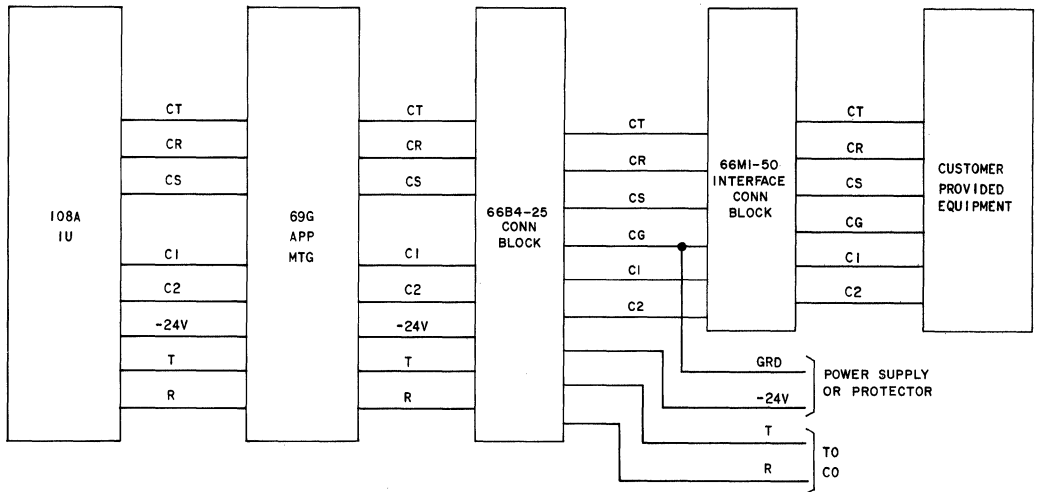

Fig. 5—Block Diagram—108A Interconnecting Unit With 69G Apparatus Mounting
69G Apparatus Mounting (Fig. 5 and 6)
3.01 The 69G apparatus mounting is not recommended for new installations. To provide additions to existing installations, refer to Fig. 5 and 6 for connections required. Separate fusing and -24 volt power are provided locally.
6.01 For connection information using the 69G apparatus mounting, refer to Fig. 5 and 6.